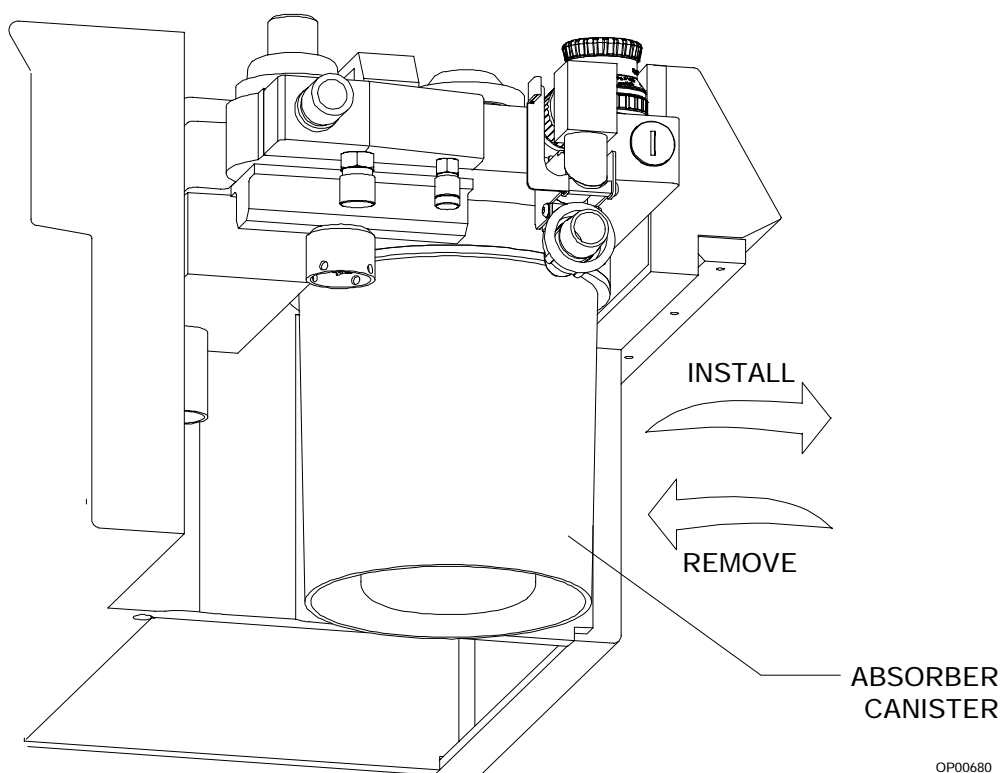

Figure 10-11. Replacing Absorber Canister
4. Fit the canister into position below the breathing system and turn it counterclockwise (as viewed from top of ventilator) as far as it will go. See Figure 10-11.